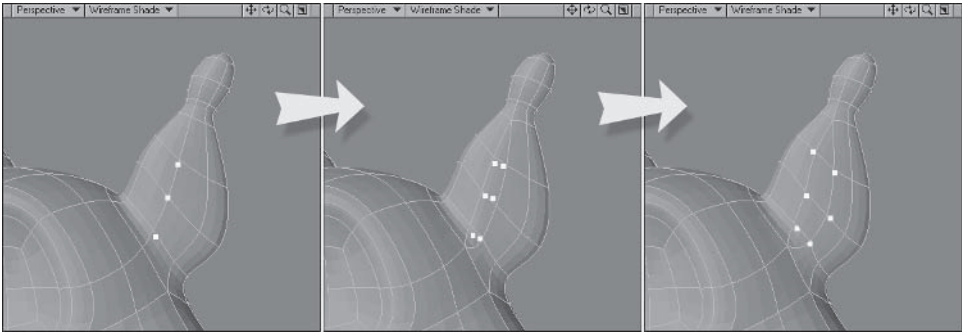

Figure 5.3-54. Creating the shape for the opening.
1. Select the front three points of the ear shown in Figure 5.3-54, **Edge Bevel**, then **Drag** the points to create the right shape for the opening of the ear.